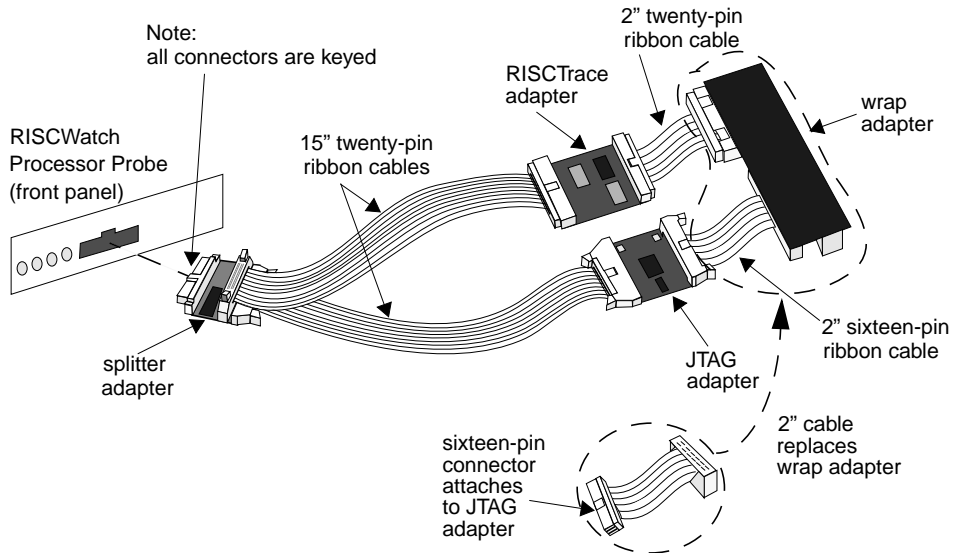

Figure 3-2. JTAG Adapter with RISCTrace Assembly
- 5. If your adapter assembly resembles Figure 3-2, you have a JTAG adapter with RISCTrace assembly. To assemble the adapter assembly and cables, perform the following steps:
- a. Remove the "wrap" adapter, if attached to the cables (see Figure 3-2).